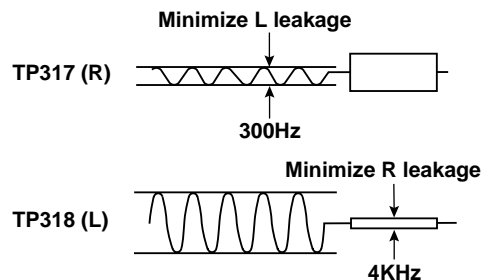

Figure 7. Separation Adjustments
13. Adjust the + or – key for minimum low frequencies at TP317. (See Figure 7.)
16. Adjust the + or – key for minimum high frequencies at TP318. (See Figure 7.)